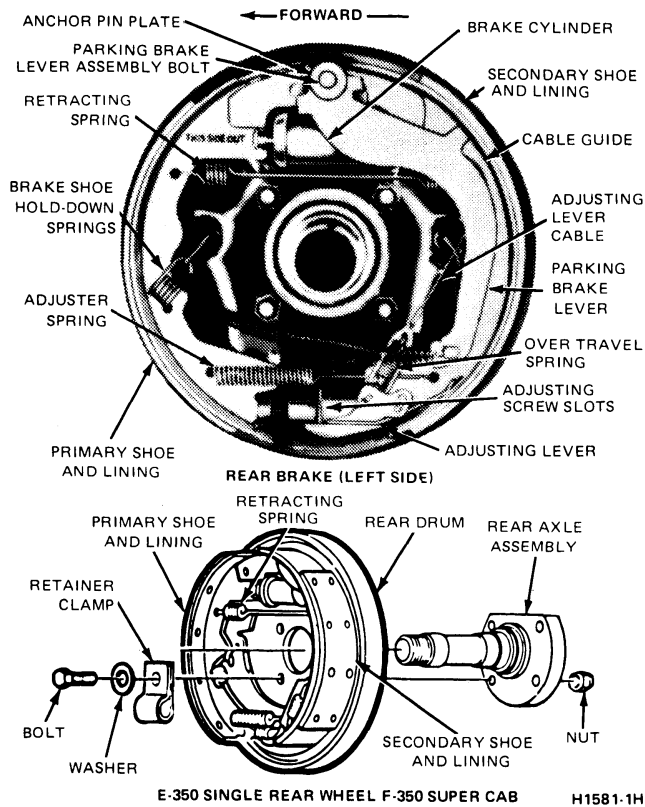

FIG. 12 Self Adjusting Brake Assemblies—Heavy Duty—E-250—E-350, F-250—F-350
- Remove the parking brake lever assembly retaining nut from behind the backing plate and remove the parking brake lever assembly (Fig. 12).
4. Install the upper retracting spring on the primary and secondary shoes as shown in Fig. 12, and position the shoe assembly on the backing plate with the wheel cylinder push rods in the shoe slots.